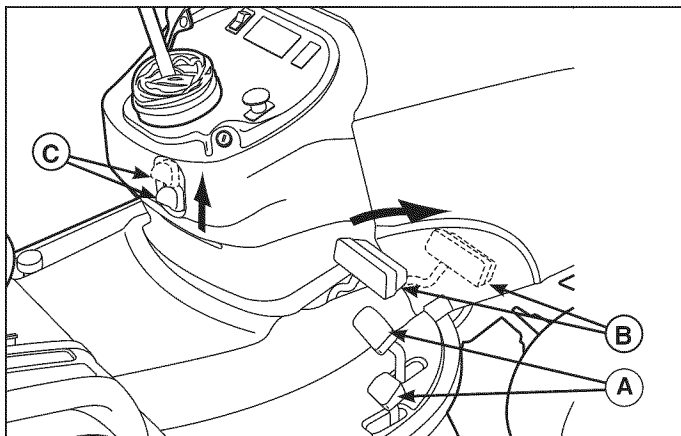

Figure 4
**Applying the Parking Brake** - See Figure 4. To lock the parking brake, release the ground speed pedals (A), fully depress the brake pedal (B), pull UP on the parking brake knob (C), and then release brake pedal.
**Releasing the Parking Brake** - See Figure 4. To release the parking brake, fully depress the brake pedal (B) and push the parking brake knob (C) DOWN.